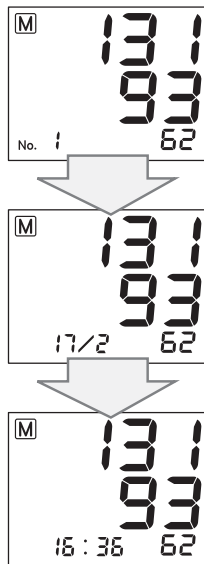

Fig.17
4. In the lower left corner of the display, the memory cell number, date and time of measurement will be displayed interchangeably (Figure 17). The result stored in the cell at number 1 is the most recent among the stored data in the selected memory. The larger the memory cell number is, the older is the result.